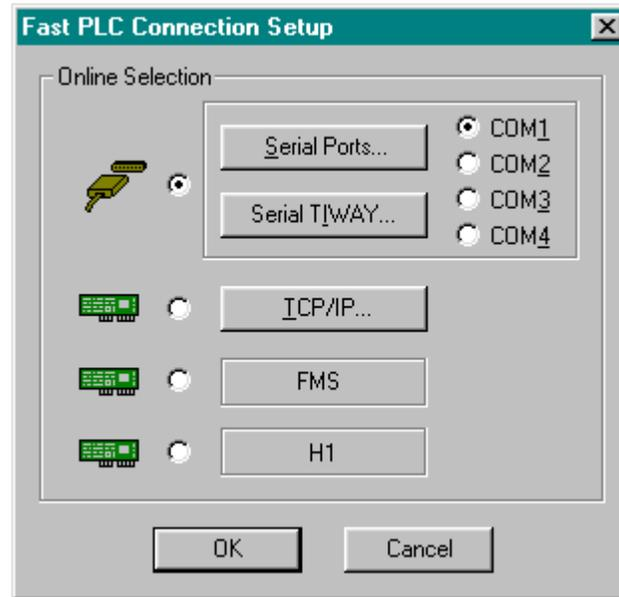

Figure 4.17
**Result:** The Fast PLC Setup dialog box appears (Figure 4.17).